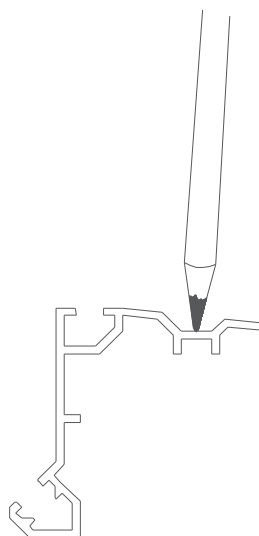

Figure 2
**STEP 2.** Select the base members. If the anchor holes have not been drilled into the base members at the factory, mark the locations for the anchor holes on the base members, see Figure 2. Standard anchor spacing is 20" o.c. with an anchor hole a maximum of 3" from each end of each extrusion section. Drill the anchor holes into the base members at the marked locations.